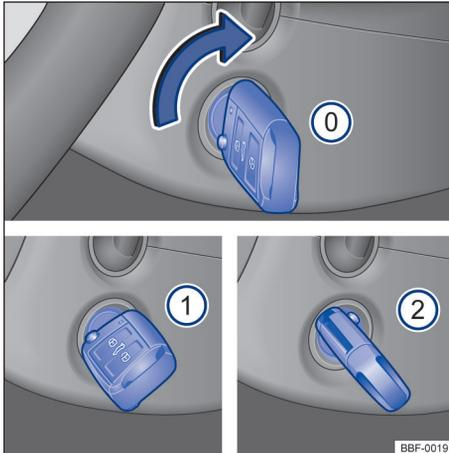

Fig. 90 Next to the steering wheel, to the right: vehicle key positions on the ignition cylinder.
Positions of the key in the vehicle → **Fig. 90**
- ① Ignition switched off. The vehicle key may be removed.
- ② Ignition switched on.
- ③ Step on the brake pedal – (vehicles with automatic gearbox), or on the clutch pedal (vehicles with manual gearbox) and turn the engine on. When the engine catches on, release the ignition key. Upon release, the vehicle key returns to position → **Fig. 90** ①.
- *Vehicles with ignition lock:* rotate the vehicle key to → Fig. 90 . Ignition switched on.
- *Vehicles with ignition lock:* turn the vehicle key in the ignition lock to position → Fig. 90  – do not accelerate. When the engine catches, release the ignition key.
- *Vehicles with ignition lock*: rotate the vehicle key in the ignition lock to → Fig. 90 .